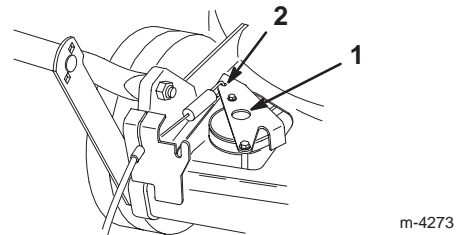

Figure 23
4. Push the drive bracket down until it contacts the lawn mower, then hold it in place (Fig. 23).